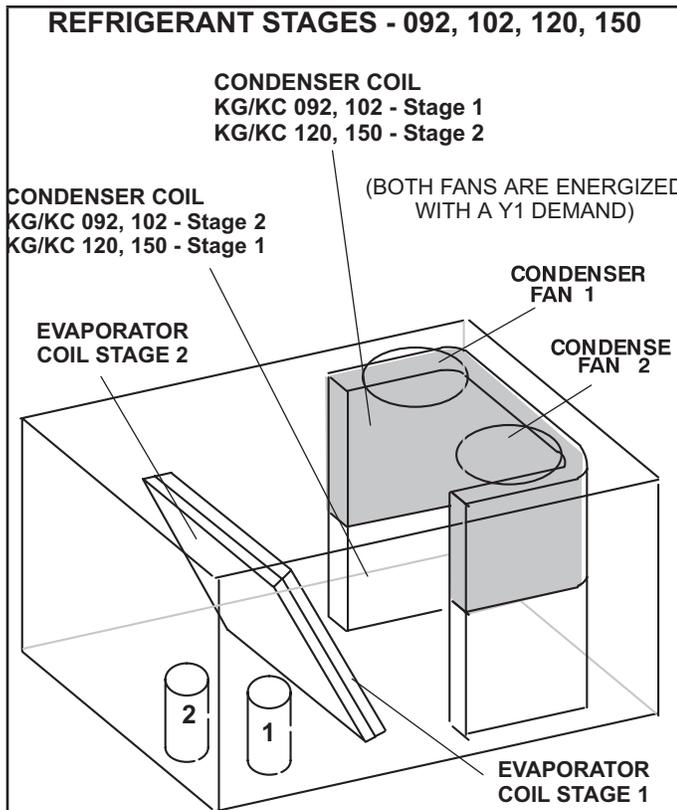
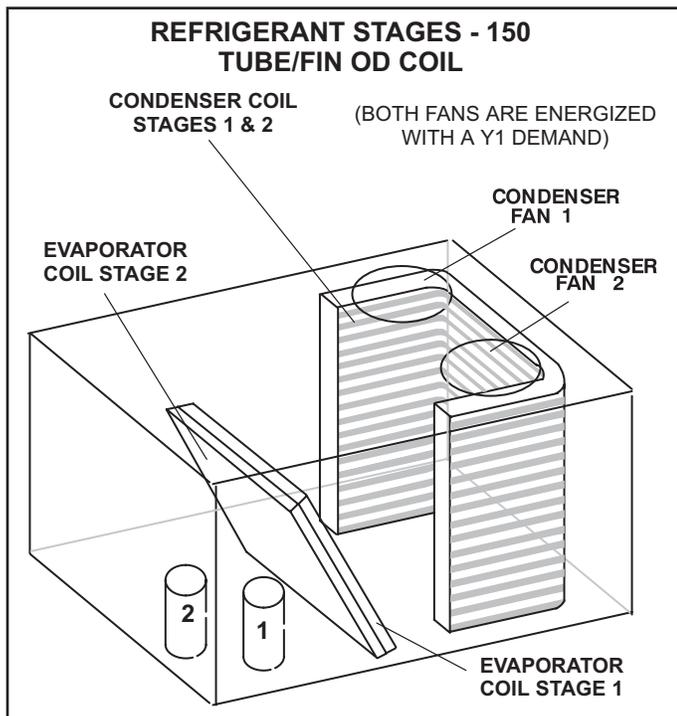

FIGURE 14
FIGURE 15
- 3 - Units contain two refrigerant circuits or stages. See FIGURE 14 and FIGURE 15.